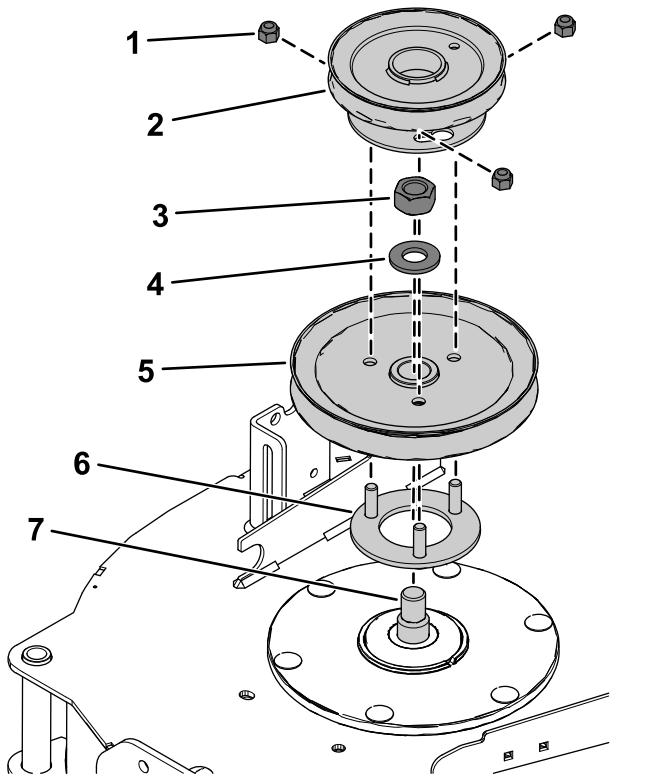

Figure 20
4. Insert the threaded studs on pulley mount through the holes in the deck pulley (Figure 20).
5. Secure the deck pulley to the spindle shaft using the previously removed hex nut (3/4 inch) and washer (Figure 20).
7. Arrange the blower pulley onto the threaded studs and loosely install the 3 locknuts (3/8 inch) as shown in Figure 20.